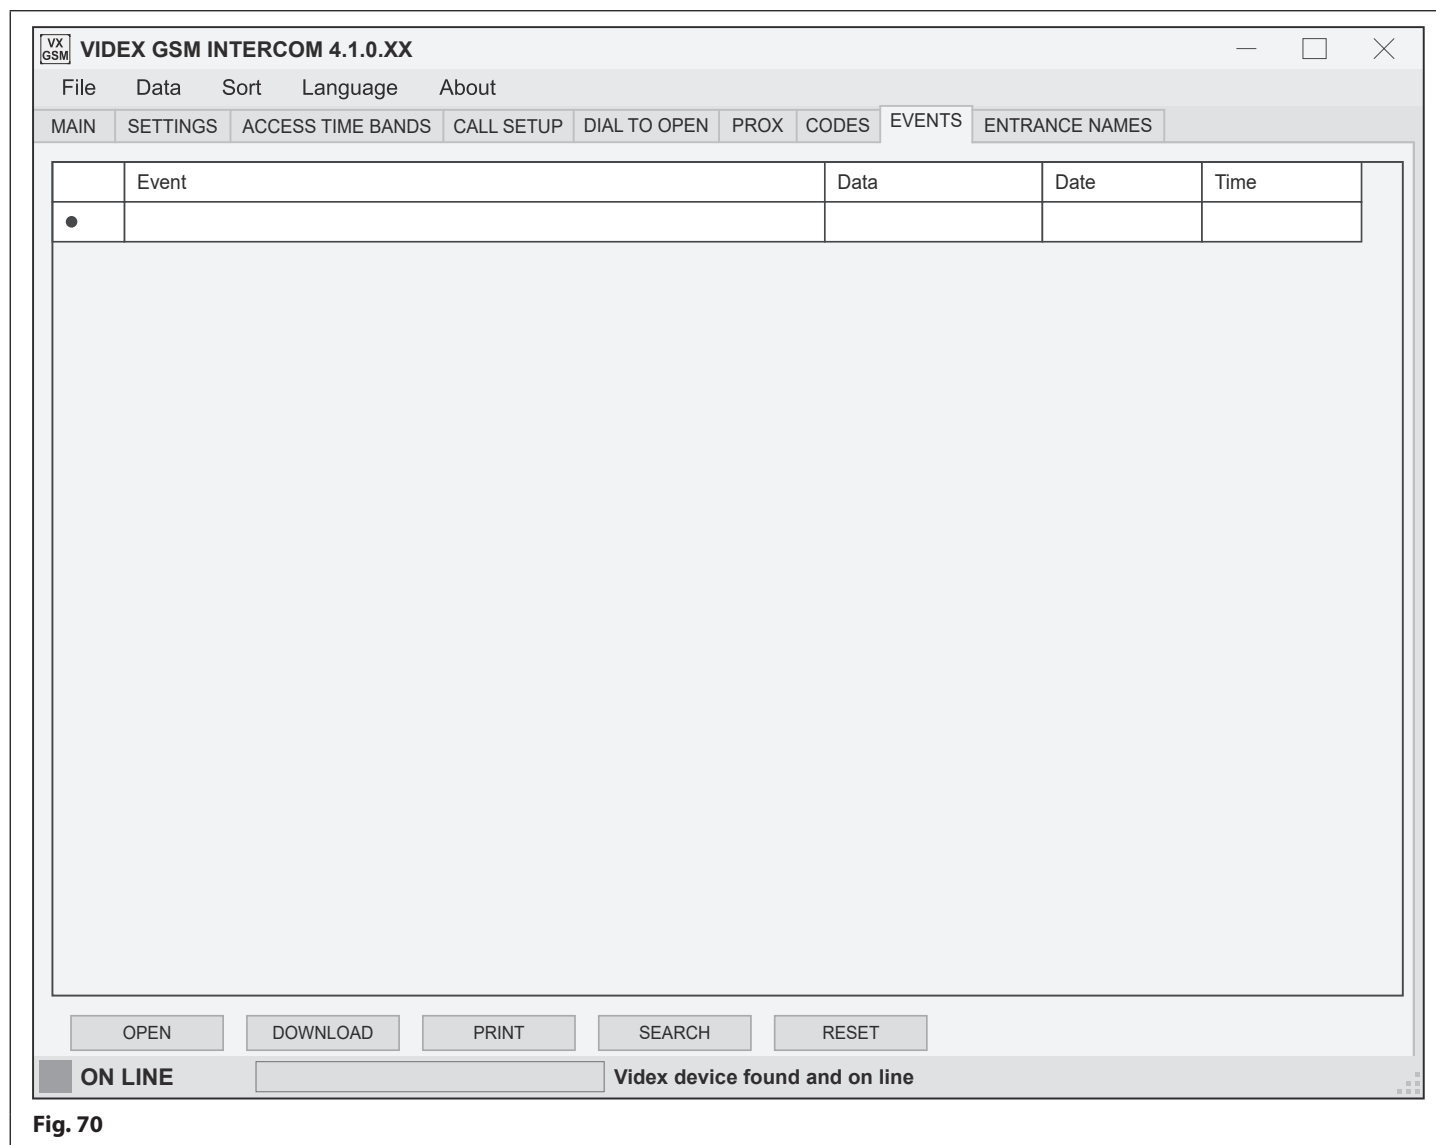

Fig. 70
The events window layout is the same for each of the GSM systems, refer to **Fig.70**.
- First click on the '**OPEN**' button at the bottom left of the events screen (see **Fig.70**).
- First click on the '**DOWNLOAD**' button at the bottom of the events screen (see **Fig.70**).